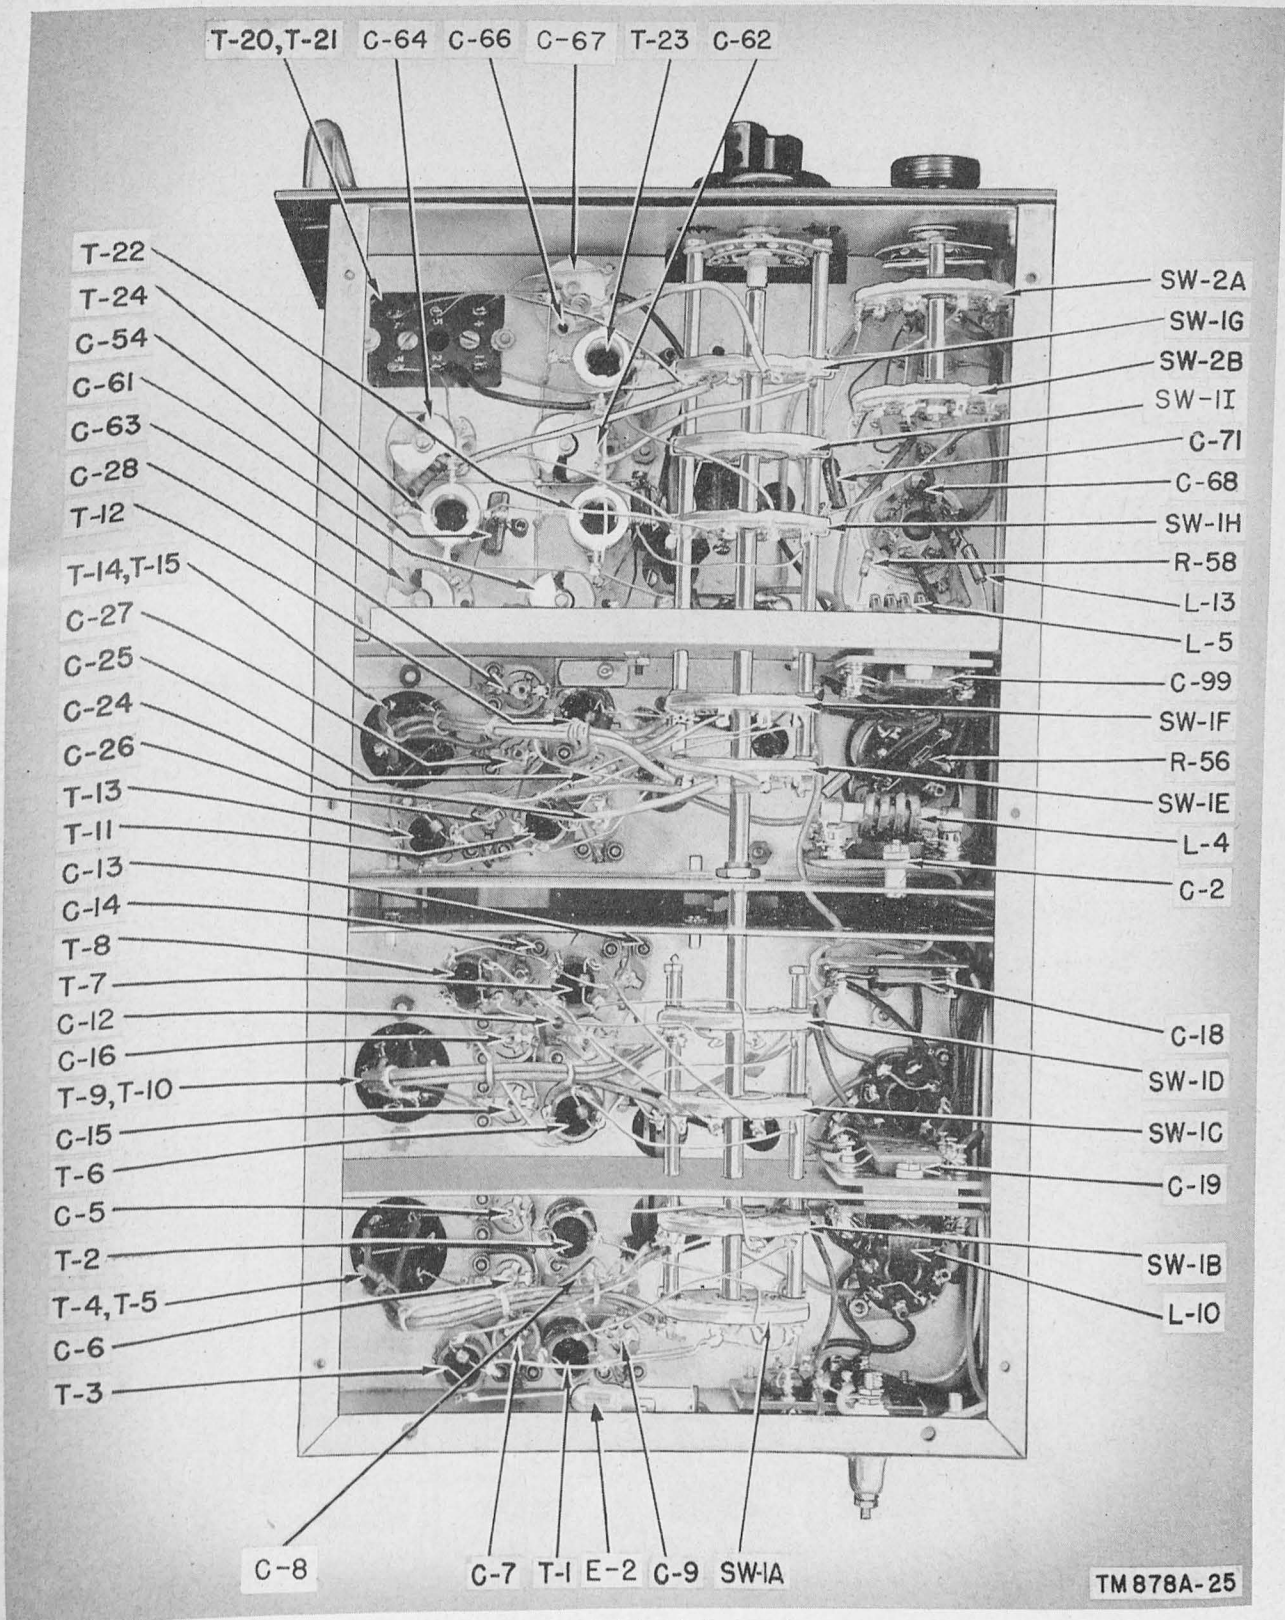

Figure 30. R-f chassis, bottom view.
audio, i-f, or r-f stage of the receiver. The signal substitution tests outlined in paragraphs 82 through 86 then can be used to supplement this procedure and determine the defective stage or component. A tube check and voltage and resistance measurements of this stage ordinarily should be sufficient to isolate the defective part. Test tubes before starting this procedure. To aid in trouble shooting and repair, refer to figures 30, 31, 32, 34, 36, 37, and 40.
- (1) To replace switch decks (figs. 30 and 34), first remove the center $\frac{1}{2}$ -inch Cinch button of the three Cinch buttons on the back of the chassis. Loosen the shaft coupling next to the switch shaft and remove the shaft through the $\frac{1}{2}$ -inch hole in the back of the chassis. To replace the switch deck in the front section, unsolder the wire from the defective switch deck, tagging each lead as it is removed. Unscrew the No. 5-40 nut from the back of the last switch deck and pull the threaded shaft through the $\frac{3}{8}$ -inch hole in the front panel until the defective deck is clear. Take care not to lose the metal spacers and phenolic washers. To replace the switch decks in the rear switch section, unsolder the leads from the defective switch deck and tag each lead as it is removed. Remove the two $\frac{3}{8}$ -inch Cinch buttons from the back of the chassis. Unscrew the No. 5-40 nuts from the front of the threaded shafts and pull the threaded shafts through the $\frac{3}{8}$ -inch hole in the back of the chassis until the defective switch deck is clear. Take care not to lose the metal spacers and phenolic washers.
- (2) To replace the BAND SWITCH, first remove the front panel from the chassis. Then remove the front plate from the r-f tuning section; be careful not to damage the dial. Unsolder the 10 leads that come from the r-f section to the i-f section through the terminal board. Unsolder the lead from the plate (pin 3) of Tube JAN-6SA7. Locate and remove the three screws that hold the chassis to the r-f chassis. Loosen the coupling between detent switch sections of the BAND SWITCH. Remove the antenna feed-through insulator. Remove the screws from the r-f shield that holds the r-f chassis in place.
- (3) To remove the front switch assembly, take out the three screws from the back plate of the r-f chassis and slide the plate back until the end of the switch is clear. To remove the front section of this switch assembly, unsolder all leads to the switch (tagging them as removed) and the four